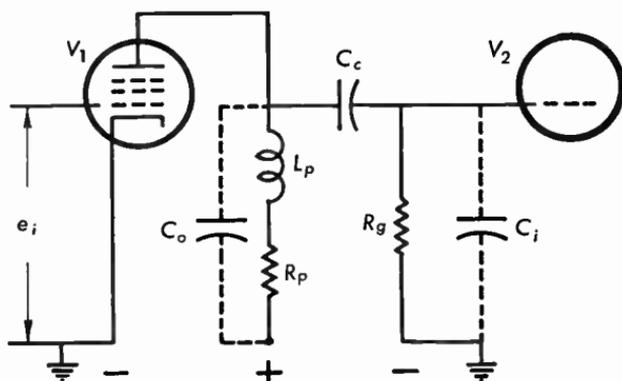

Fig. 11.36a Video amplifier with high-frequency compensation by using a shunt-peaking coil.
11.36 In the video amplifier of Figure 11.36a, $R_p = 2000$ ohms, $r_p = 100,000$ ohms, $L_p = 50$ microhenries, $C_c = 0.25$ microfarad, $R_g = 2$ megohms, $C_i = 12.5$ micromicrofarads, $C_o = 7.5$ micromicrofarads, the transconductance of V_1 , $g_m = 7700$ micromhos. Calculate the voltage gain at 4 megacycles (a) with the shunt peaking coil L_p short-circuited, (b) with the shunt peaking coil L_p in the circuit.